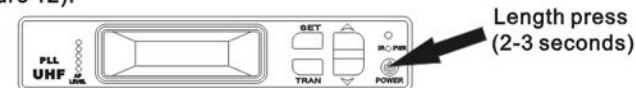

FIGURE 12
1.Open the receiver (Figure 12).